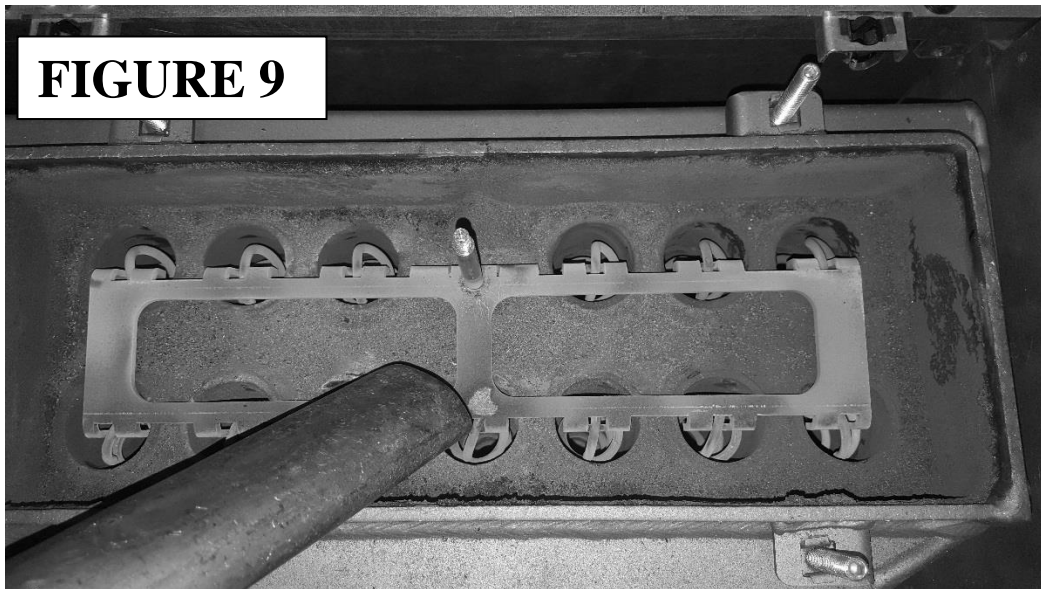

FIGURE 9
- Vacuum the ash in the top smoke circuit compartment. (Figure 9). To access the compartment, first remove the top cover (A), by pulling it up vigorously (Figure 6), then unscrew by turning the turbulator shaker knob counterclockwise (Figure 7). Lastly, unscrew the 4 wing nuts and remove the cover making sure you do not damage its insulation (Figure 8).